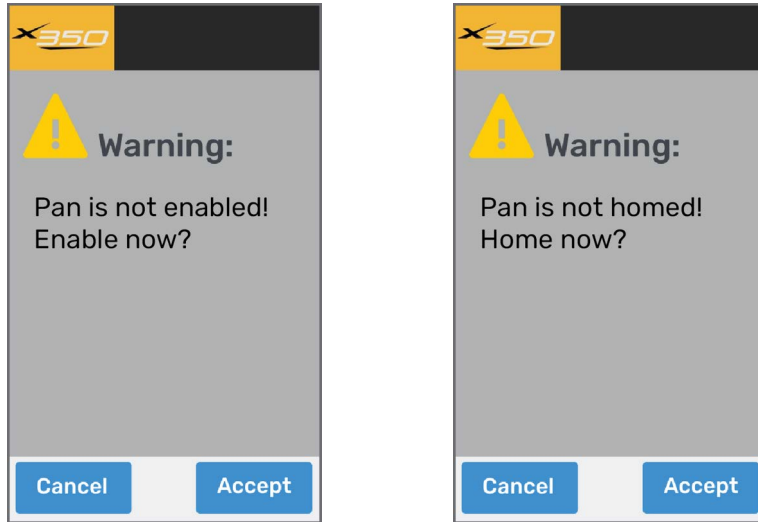

Figure 38 -Warning Messages (Pan is not enabled, and pan is not homed)
4. If warning messages appear, indicating that the axis is not enabled and/or homed, tap **Accept** each time such a message appears (**Figure 38**).